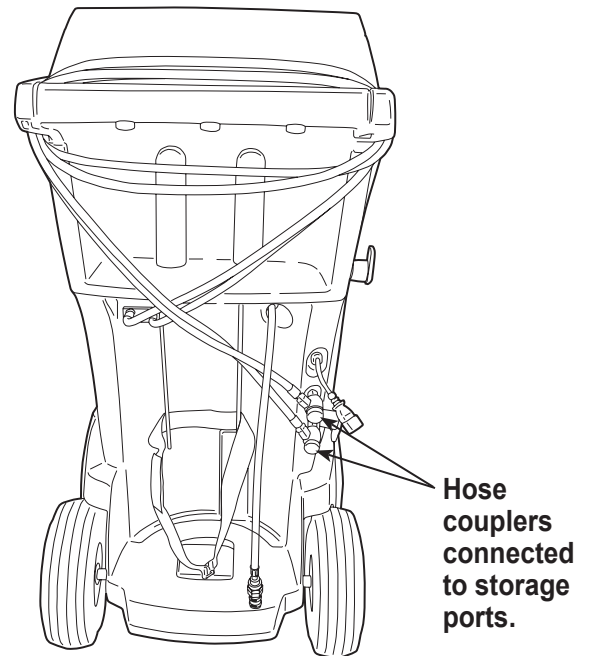

Figure 15
2. Loop the service hoses around the handle twice and attach them to the storage ports. See Figure 15.